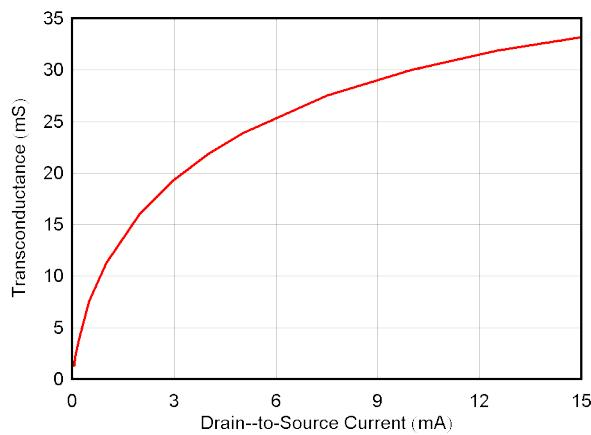
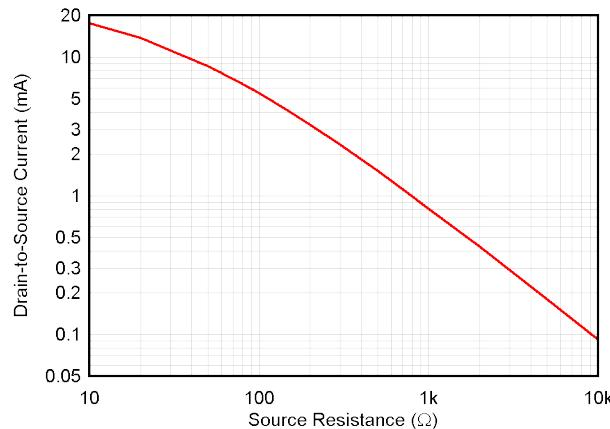

图 6-4. Common Source Transconductance vs Drain-to-Source Current
图 9-3. Drain-to-Source Current vs R_S , $V_{DS} = 5 \text{ V}$
Generally, higher gain results in improved noise performance. Gain increases as the bias current is increased as a result of increasing gm (see 图 6-4). As a result, the input-referred noise decreases as bias current is increased (see 图 6-9). Any JFET design must make a tradeoff between current consumption and noise performance. The JFE150, however, delivers significantly lower noise performance than most operational amplifiers at the same current consumption. The bias current (I_{DS}) is set by the value of the source resistor, R_S , and the threshold voltage, V_T , of the JFE150. 图 9-3 is a graph showing nominal I_{DS} vs R_S .
R_S	Source resistor. Used to set bias of JFET; see 图 9-3 . Resistor thermal noise directly impacts noise performance.
- The JFE150 bias current is set by selecting the desired bias current and noise tradeoff (see 图 6-11). The input-referred noise is dominated by the JFE150 bias current and gain. To set the bias current point, adjust the source resistance according to 图 9-3.